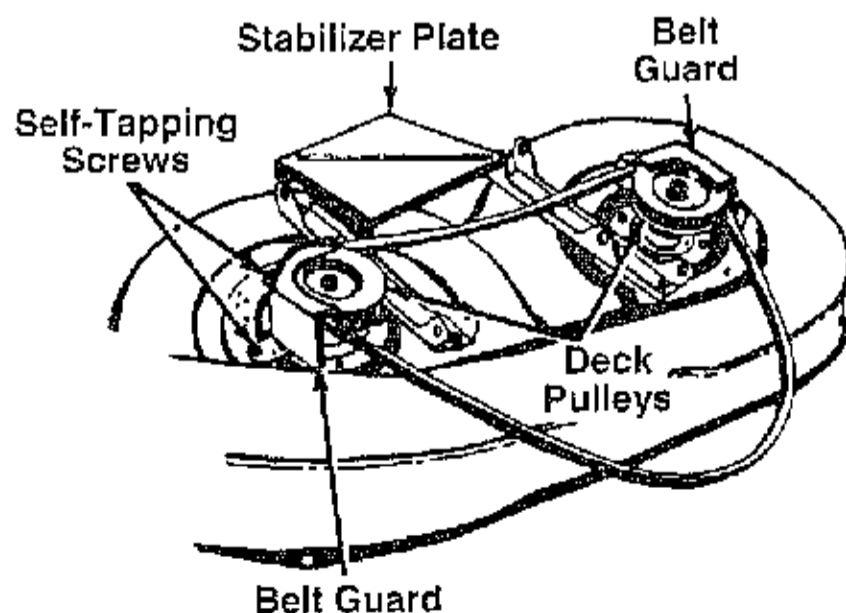

FIGURE 18.
10. Remove the belt guards at each deck pulley by removing the self-tapping screws. See figure 18.